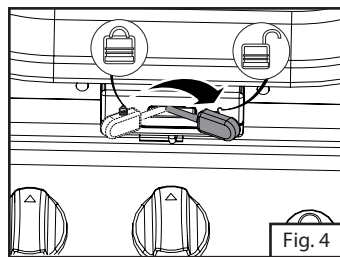
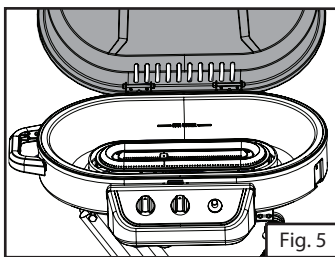

Fig. 4
Fig. 5
3. Move the lid latch to unlock position and open the lid. (Fig. 4 and Fig. 5)